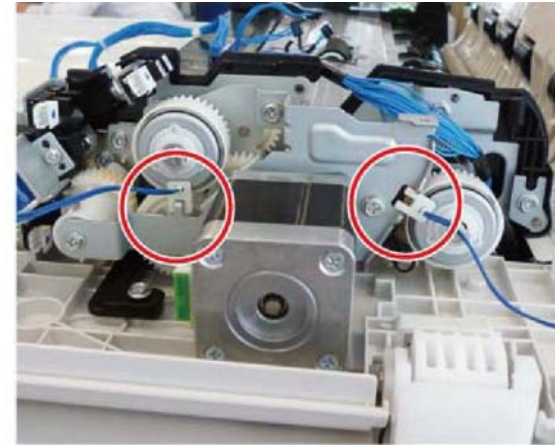

Figure 2 Alignment
2. Ensure the DADF feed motor assembly is correctly aligned with the DADF feed clutch and the DADF T/A clutch, Figure 2.